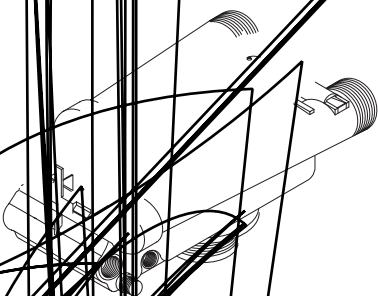

Figure 5.1
4. Using a screw driver, remove injector screen and injector cap (Figure 5.1).
4. Using a needle-nose pliers, remove the turbine from the outlet housing. Grasp one of the four vanes of the outer gland and pull straight out to remove turbine assembly from the outlet of the valve (Figure 5.1).